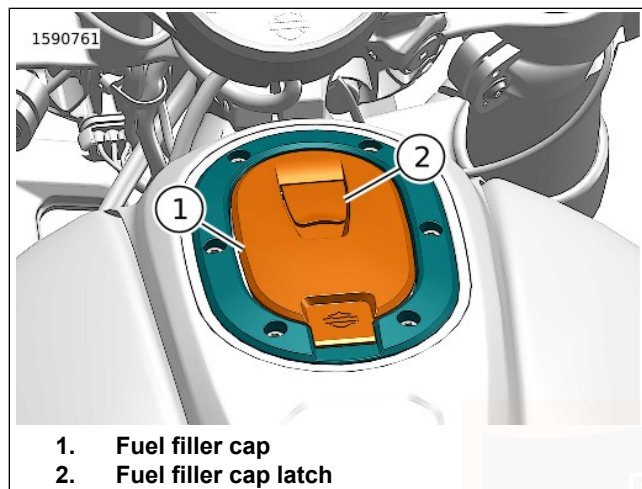

Figure 7. Fuel Tank
See Figure 7. Lift fuel filler cap latch (2) to open filler cap (1).